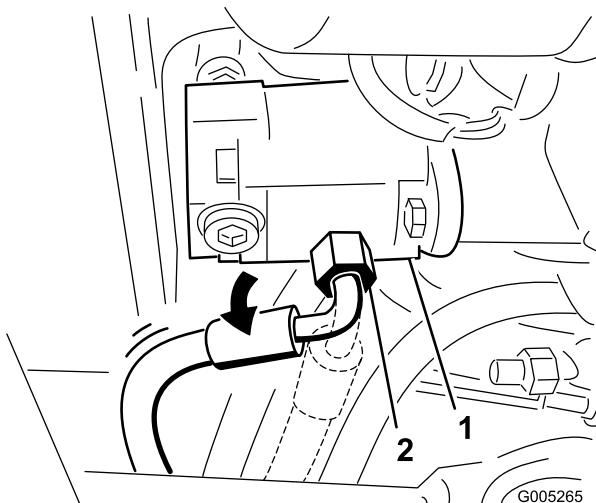

Figure 87
30. Loosen the pressure hose fitting at the pump and rotate the fitting 45 degrees toward the rear of the machine (Figure 87).
Note: Figure 87 is shown as viewed from under the traction unit.